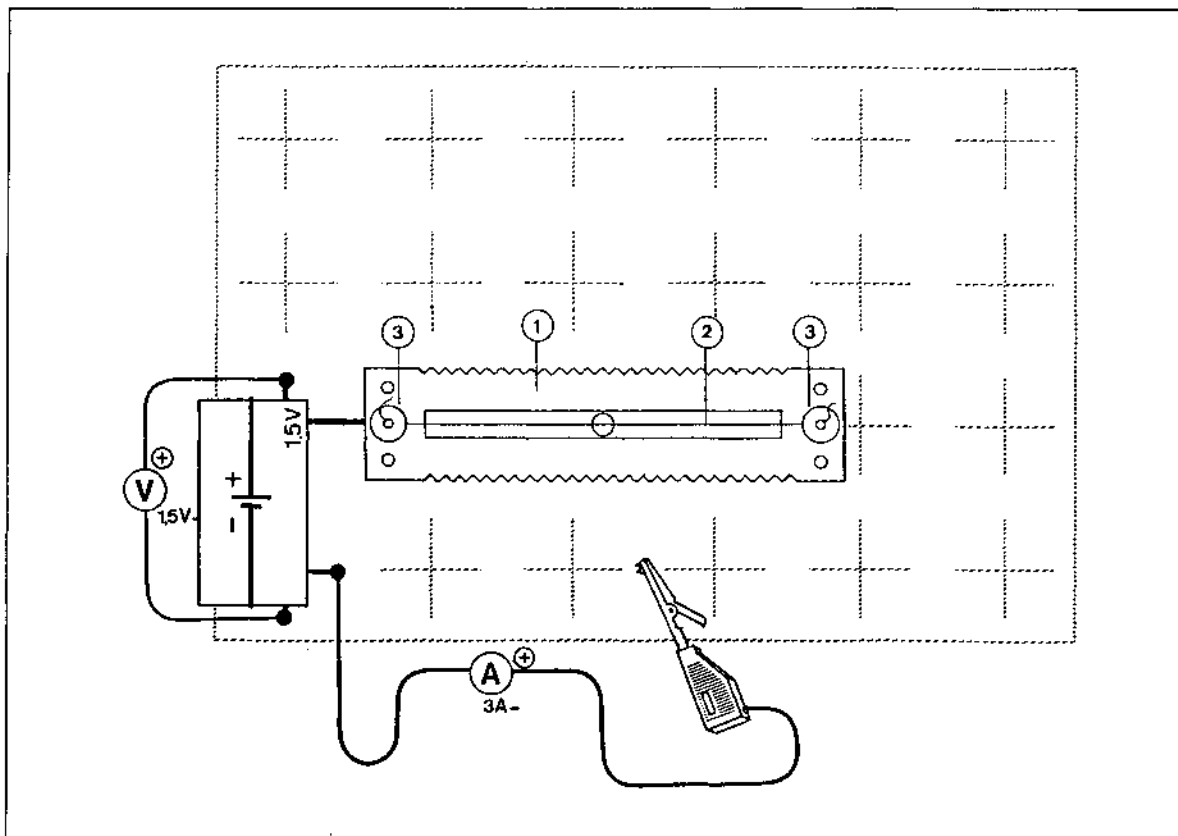

Fig. 1 Experiment setup: Terminal voltage and internal resistance of a voltage source
1. Set up the experiment as shown in fig. 1. Clamp the wire using the clamping plugs (3). To do this, wind the ends of the wire twice around the screw shafts, then tighten the screw clamps firmly.
2. What value is the voltmeter shown in the circuit in fig. 1 measuring?